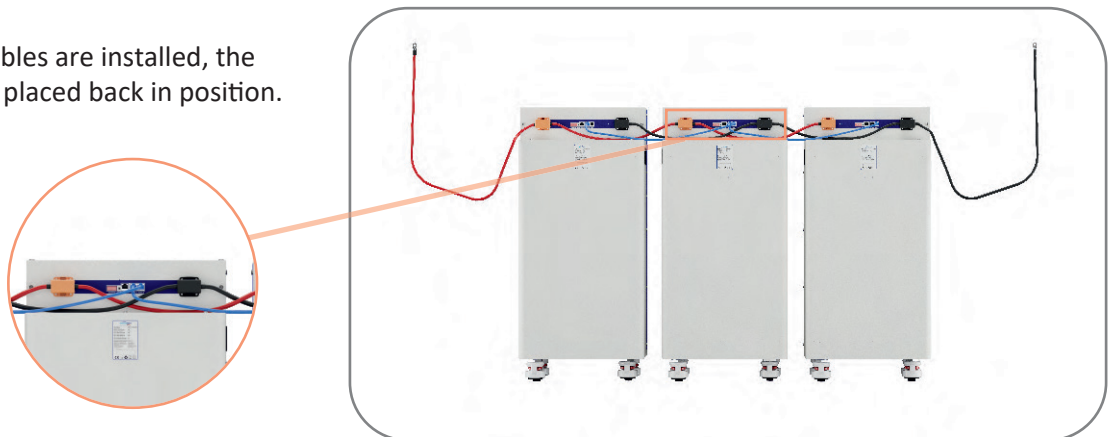

Figure 7.12
STEP 12: After the power cables are installed, the connector covers should be placed back in position. (Figure 7.12)